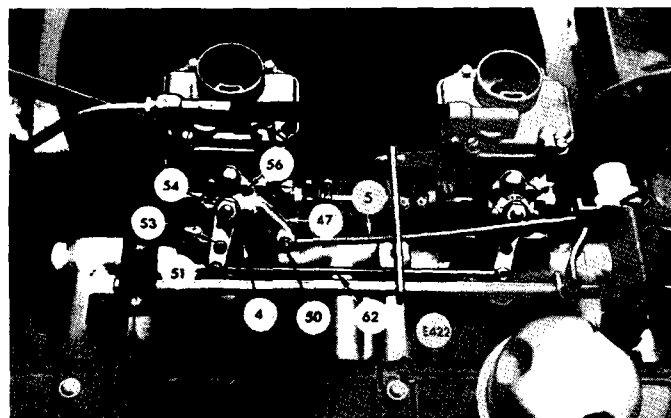

Fig. 38. L.H. view of carburetors
Starter Block — Removal (Fig. 38)
Disconnect the choke control cable (4) (Fig. 38) and (5) and interconnecting cable (62).